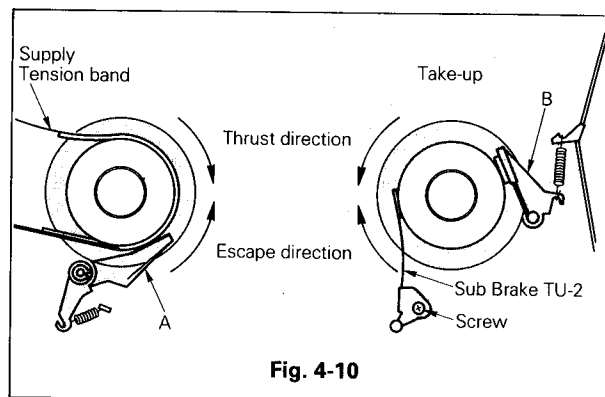

Fig. 4-10
- Be sure that the sub brakes (A, B) are separated from the reel discs as shown in Fig. 4-10 in the playback and record modes.